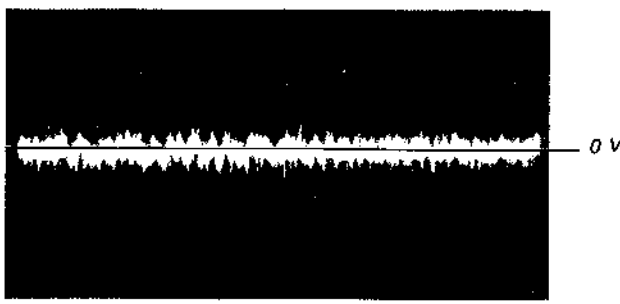

Fig. 10
5. Turn RV501 slowly counterclockwise (tracking gain rises) until the fundamental wave disappears (no large waves) as in Fig. 10.
slowly counterclockwise (tracking until the fundamental wave disappears (small waves) as in Fig. 10.